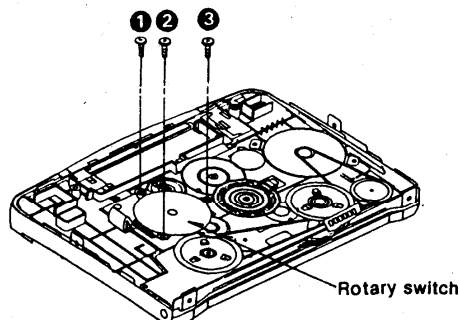

Fig. 10
1. Remove 3 screws (①~③). (See Fig. 10.)